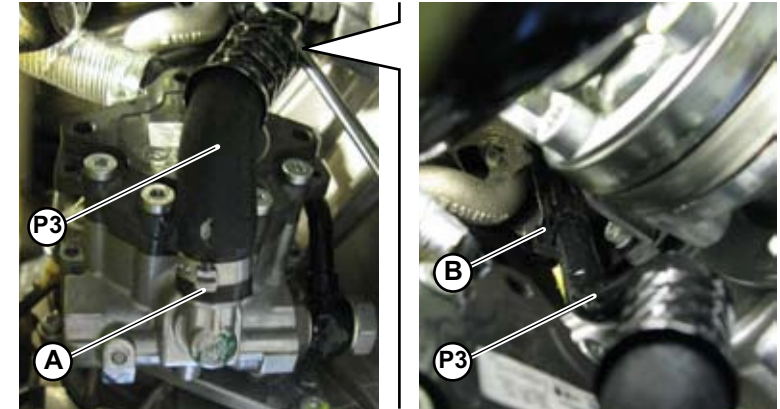

Fig.32
1. Cut the clamp (A-Fig.32) to disconnect pipe **P3** from the power steering pump
2. Release the clamp (B-Fig.32) securing the pipe to the engine.